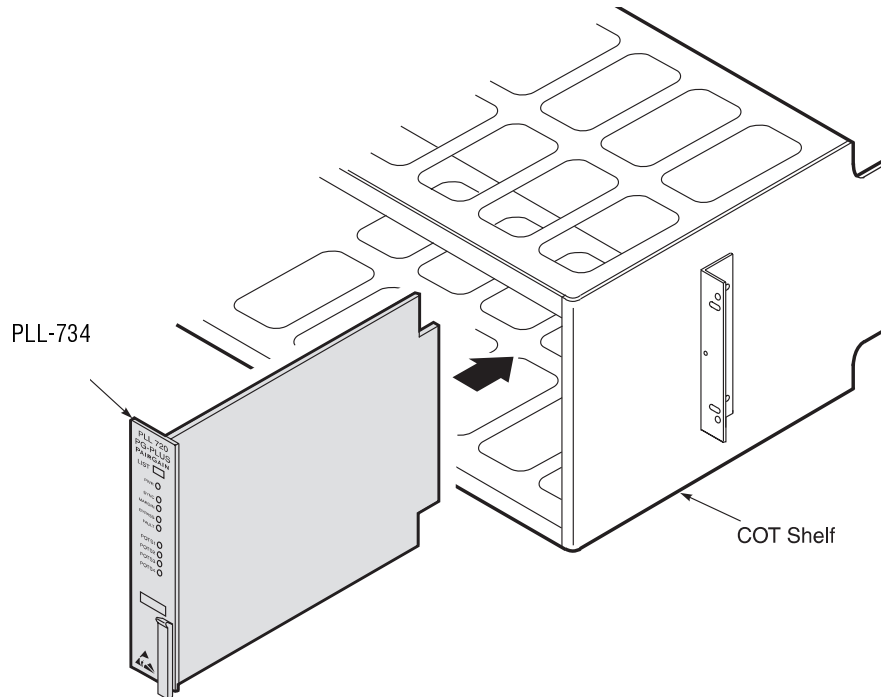

Figure 3. Installing the Card into a Shelf
- 2 Insert the COLU into the card guides in a vacant slot in the COTS that corresponds to the location of the wiring from the CO switch (see Figure 3).